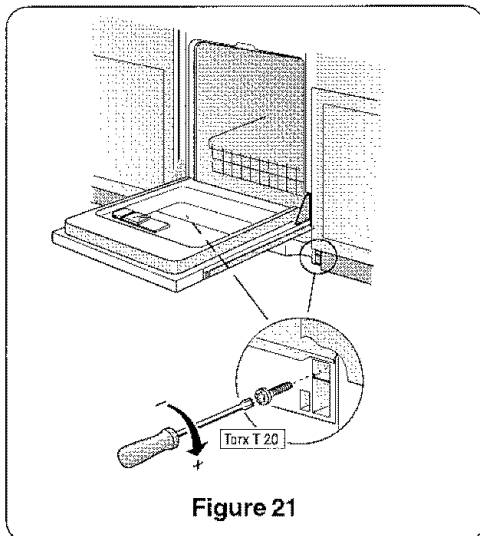

Figure 21
2. Insert the screws as shown in Figure 21. Turning the screw clockwise increases the spring tension.